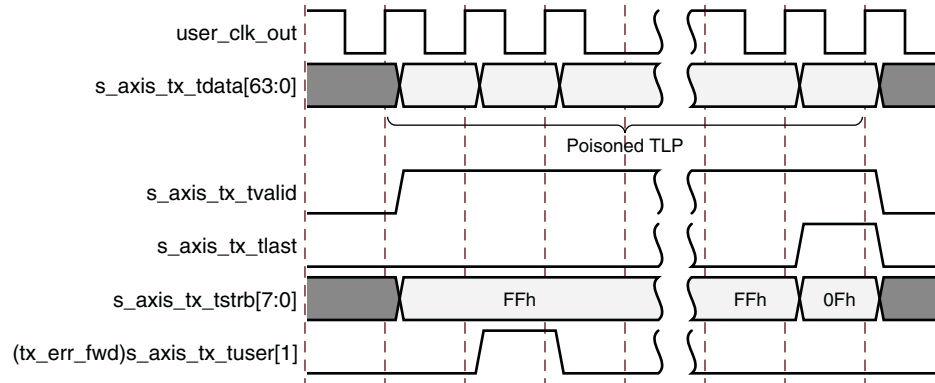

Figure 3-12: Packet Data Poisoning on the Transmit Interface
- Assert (tx_err_fwd) s_axis_tx_tuser[1] for at least one valid data transfer cycle any time during the packet transmission, as shown in Figure 3-12. This causes the core to set EP = 1 in the TLP header when it transmits the packet onto the PCI Express fabric. This mechanism can be used if the User Application does not know whether a packet could be poisoned at the start of packet transmission. Use of terr_fwd is not supported for packets when (tx_str) s_axis_tx_tuser[2] is asserted (streamed transmit packets). In streaming mode, you can optionally discontinue the packet if it becomes corrupted. See Discontinuing Transmission of Transaction by Source, page 57 for details on discontinuing packets.